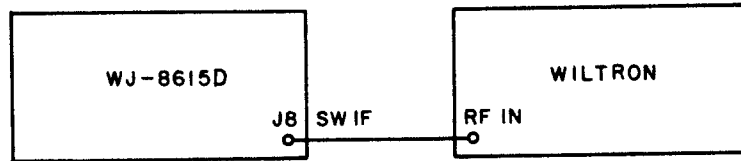

Figure 4-13. Preamplifier/Converter Sweep, Equipment Connections
- 10) Reinstall and secure all the jumpers in their proper locations and connect the test equipment as illustrated in **Figure 4-13**. Set the Wiltron to display 5 MHz per division.